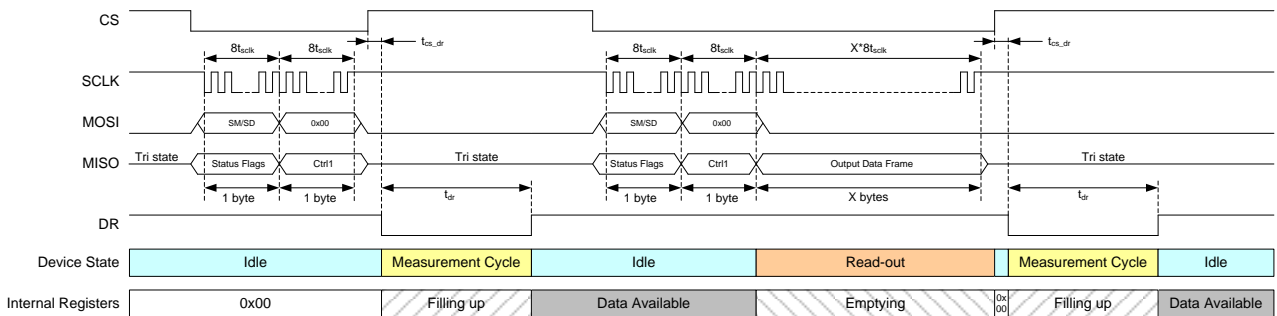

Figure 14 : Combined SM - RO (X value is defined in Figure 6)
- Figure 14 : Combined SM - RO (X value is defined in Figure 6) shows the operation with the combined SM and RO. First one has to upload a SM command to start a measurement. The data is available for read-out when the DR pin goes high. Instead of uploading a RO command, a SM command can be uploaded again to combine read-out and the start of the next measurement cycle. If extra clocks are given after upload of the SM command, the data of the internal registers becomes available on the MISO pin. Note that the CS pin shall not be set high until the read-out is finished. Once CS pin goes high, the DR pin is set low and a new measurement cycle will be started. A time  $t_{dr}$  later the DR pin goes high to indicate that the data is available.